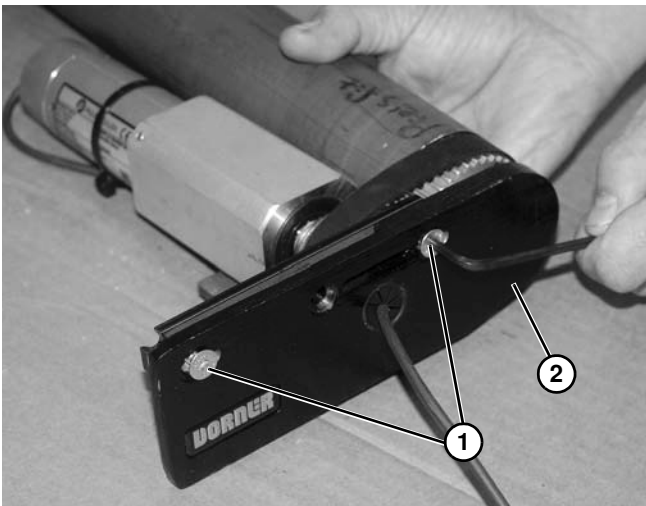

Figure 71
6. Remove two head plate fastening screws (**Figure 71, item 1**) securing head plate (**Figure 71, item 2**) onto drive end assembly.